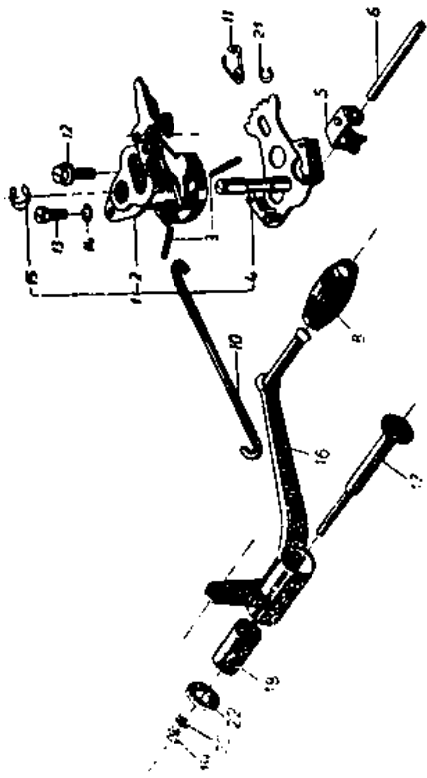
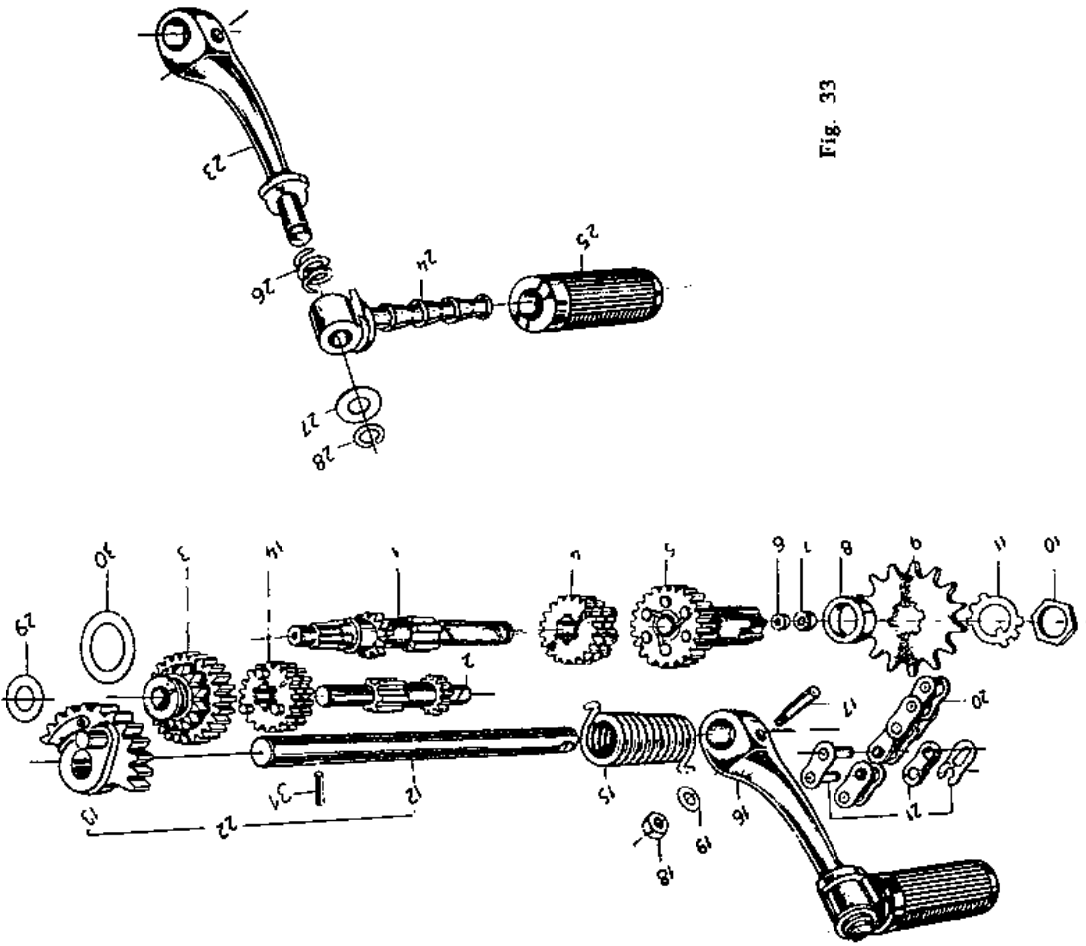
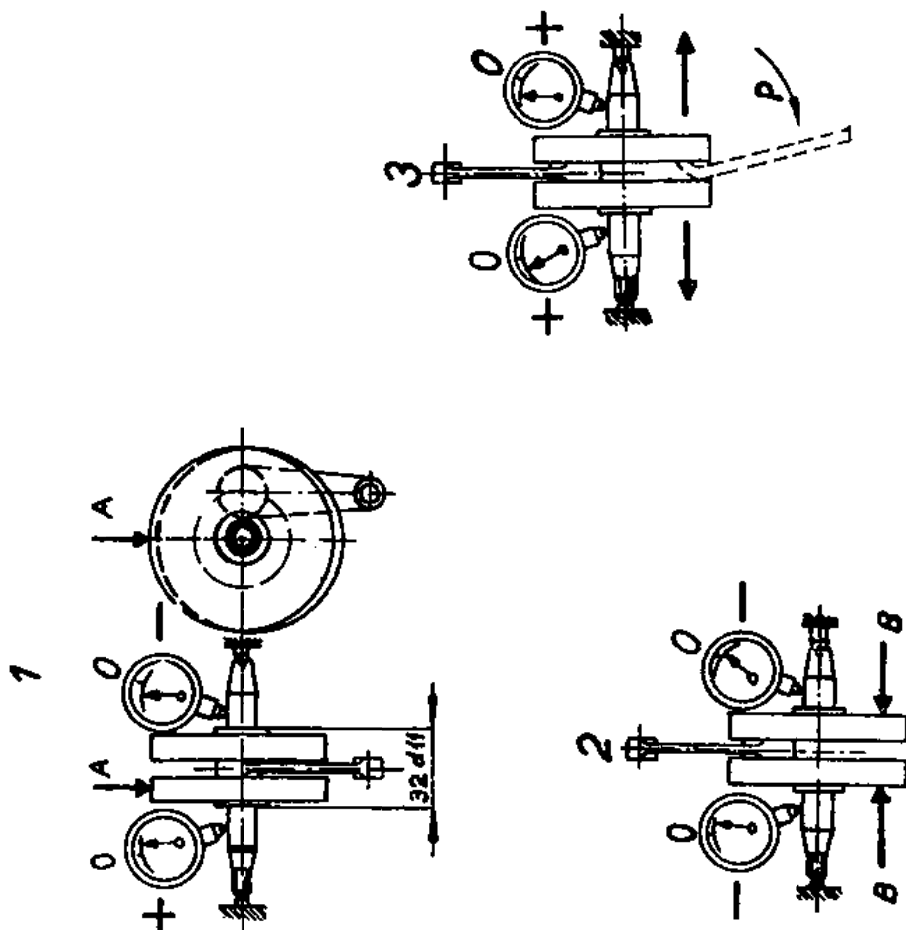

Fig. 32
Fig. 33
Fig. 35
Pull out the guide (6, fig. 32) of the shift fork (5). Pull out the main shaft (1, fig. 33), the gear, 20 teeth (4), the shift fork, the countershaft (2) together with a pinion (3) and the gear, 18 teeth (14). Detach the return spring (15) of the start shaft (12) from the catch in the R. H. box half and disengage the start with segment (13). From the upper part of the R. H. box half unscrew the M6×18 screw (13, fig. 32) fixing the gear shift automatic (1) with R. H. box half and remove the automatic. Dismantle the secondary transmission gear and pull out the gear with hub (5, fig. 35) by knocking with a wooden hammer.
it jointly onto the crank pin which is then pressed onto the R. H. flywheel. Insert the needles (7) into the cage and carry out the pressing of the crank mechanism. On pressing the crankshaft with help of angle straighten the R. H. (2) and L. H. (3) halves of the crankshaft so as to keep the approximate alignment of both crankshaft parts. Having pressed-in the shaft, center it in the following way (fig. 35):
47. Assembly of the gear box (fig. 32, 33, 36, 37)
Oil the R. H. box half contact surface and stick onto it the paper packing (37). By compressing the start level forward introduce the segment teeth into the starter gear. Depress the start lever till the contact of the engine box halves is obtained. Arrange the centring bush in the front and rear box parts and tighten then the box halves with nine screws (17, 18, 19) and insert the stop screw (12, fig. 32) of the automatic.